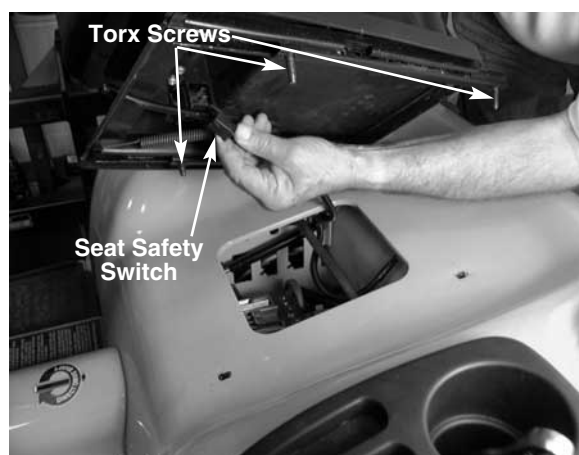

FIGURE 1.
3. Pivot the seat assembly to the side and disconnect the seat safety switch. See figure 1.
4. Remove the seat from the tractor. See figure 1.